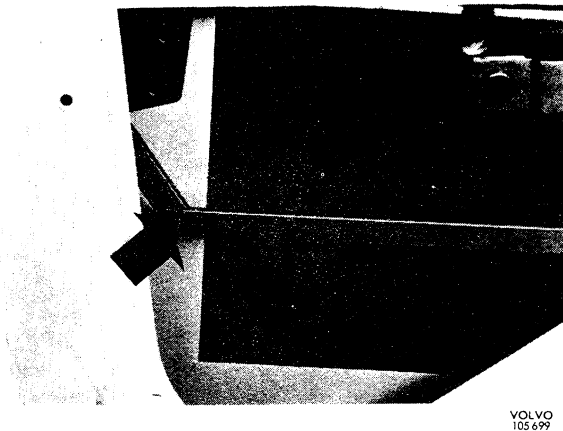

Fig. 8-14. Locking for remote control lever
2. Remove the locking for the remote control lever (see Fig. 8-14).